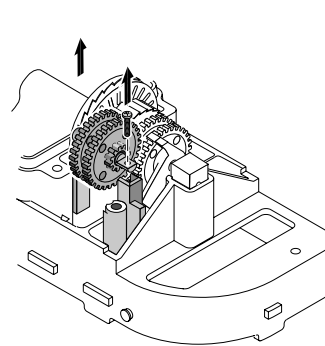

**Figure 19**
1. Remove swivel assembly (Figure 19) from the top of the cleaner by turning it 1/4-turn counterclockwise and pulling straight up on it.